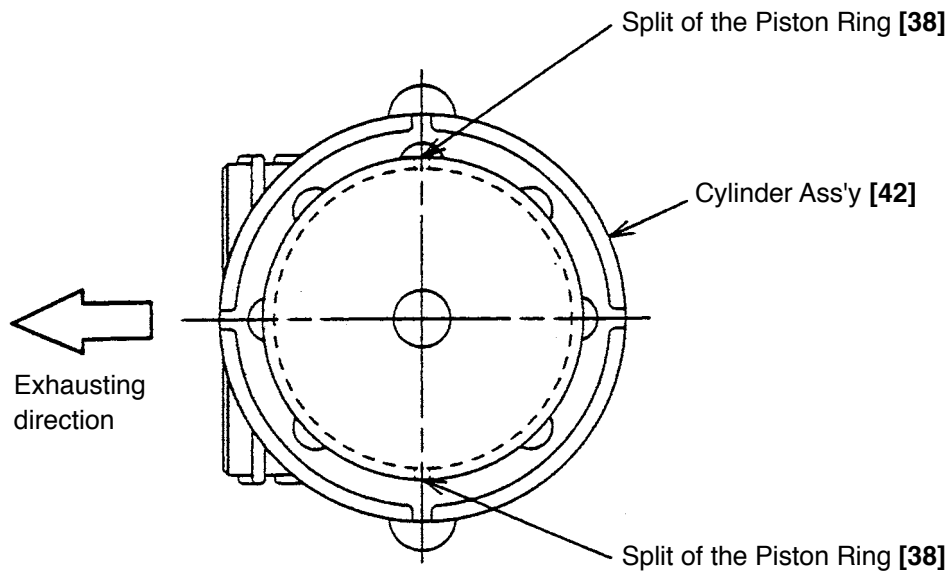

Fig. 38
- (1) Position each split of the two Piston Rings [38] at an angle of 90 degrees with respect to the exhaust port aligning these two splits in 180-degree opposite positions (Fig. 38).